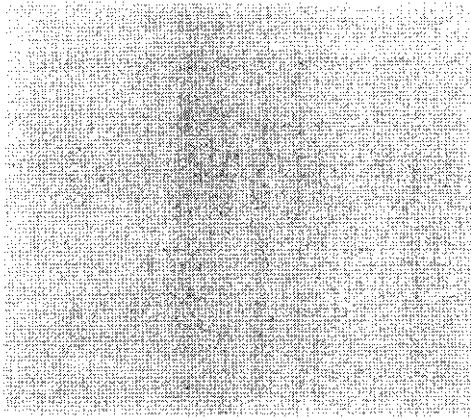

Figure 7. Sensitivity Pins Locations
3. To change to high sensitivity move the shorting jumper to the pair of pins that are closer to the top of the PIR (see Figure 7).